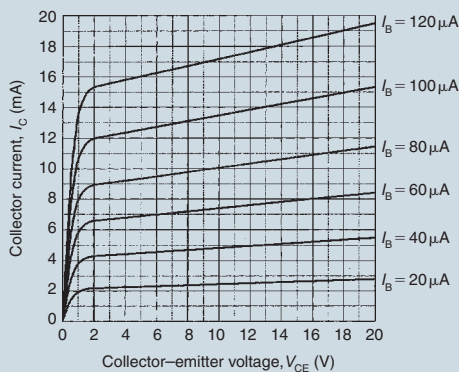

Figure 14.28
- The output characteristics for a BJT are shown in Fig. 14.28. If this device is used in a common-emitter amplifier circuit operating from a 12 V supply with a base bias of $60 \mu\text{A}$ and a load resistor of $1 \text{ k}\Omega$, determine (a) the quiescent values of collector-emitter voltage and collector current and (b) the peak-peak collector voltage when an $80 \mu\text{A}$ peak-peak signal current is applied.